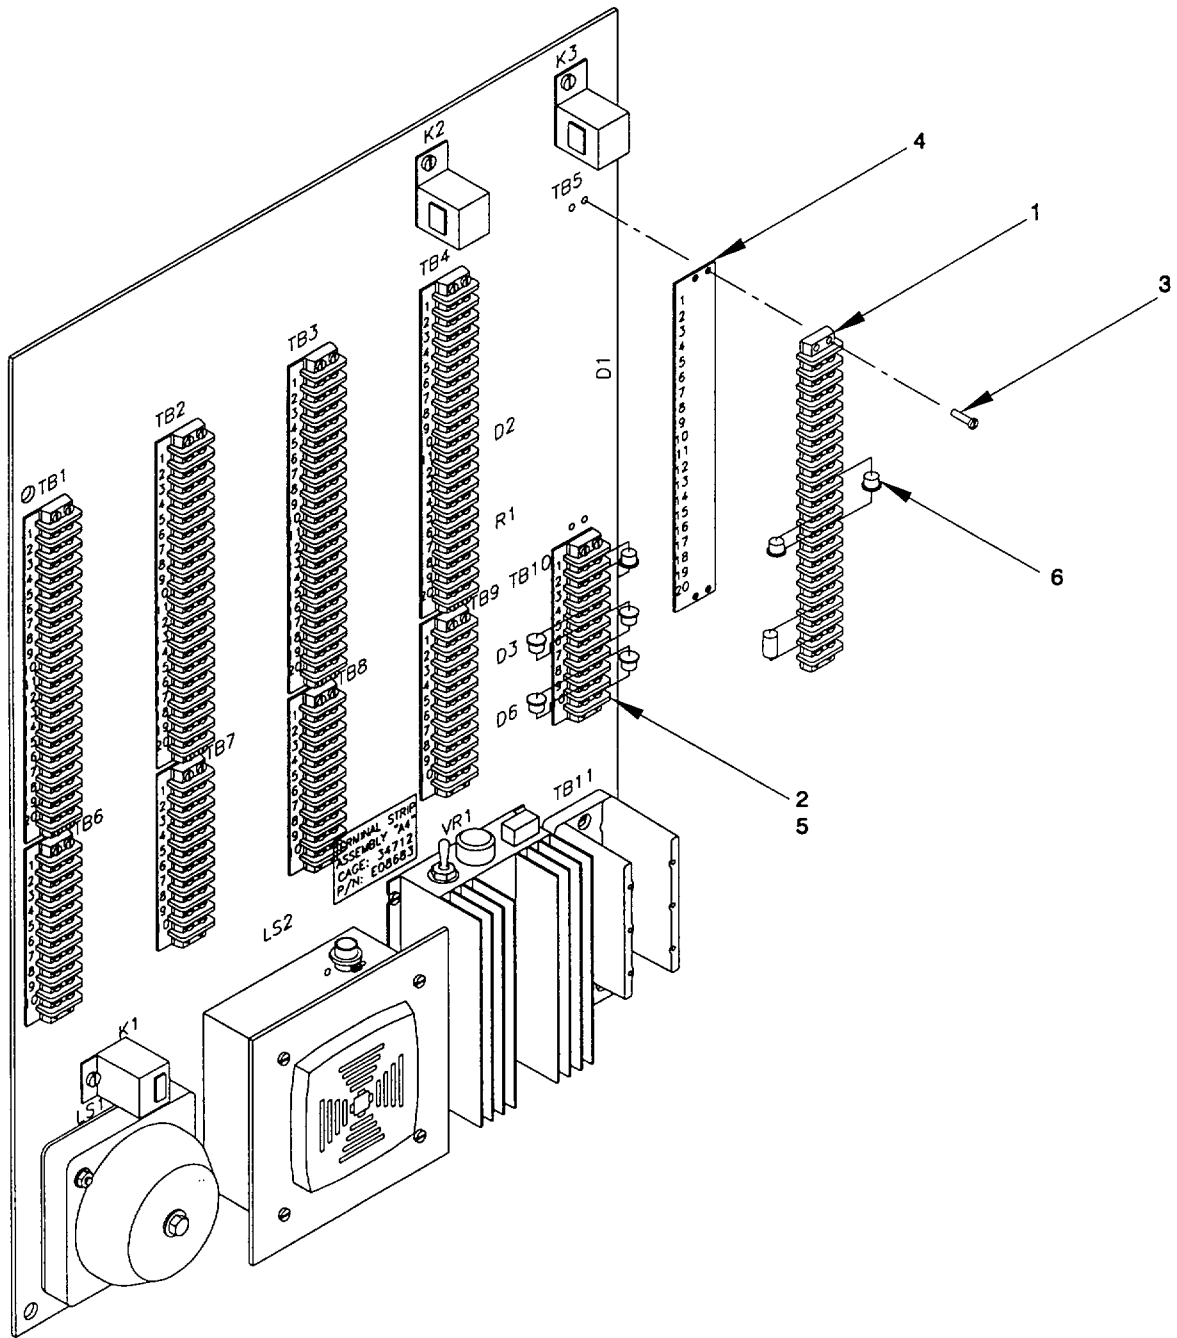

Figure 2-141. Terminal Block, Terminal Strip "A4", Remove/Install
- a. Remove. (figure 2-141)
- (1) Tag and disconnect the wiring from the block (1 or 2).
- (2) Remove pan head screw (3) to remove the block (1 or 2) from the terminal plate. The marker Strips (4) or (5) are removed with each terminal block (1 or 2). The diodes (6) are connected to the terminal blocks (1 or 2).
- b. Install. (figure 2-141)
- (1) Position marker Strips (4 or 5) over terminal block (1 or 2). Apply antiseize compound to four screws (3). Secure terminal blocks (1 or 2) to plate with pan head screws (3).
- (2) Connect wiring as previously tagged. Refer to Terminal Strip "A4" Assembly in Appendix G for wiring diagrams. Use tie wraps and mounting bases to secure any loose wiring.